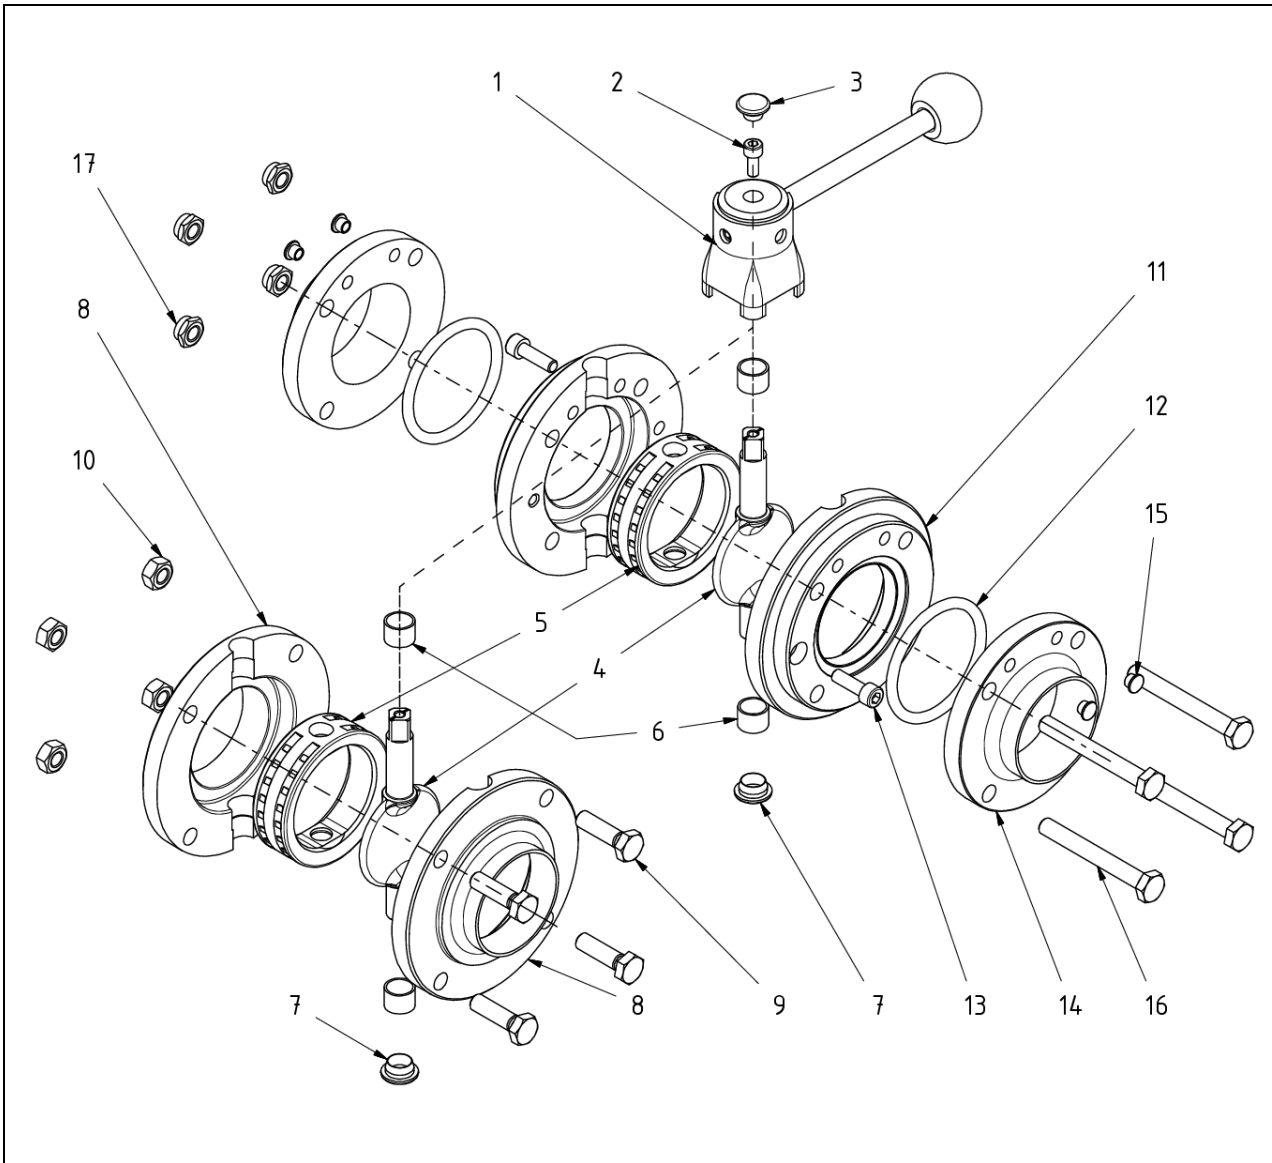

Fig. 6.1: Structure: Butterfly Valve with Handle
- Remove the blanking plugs (Fig. 6.1, item 3 and item 7).
- Remove the socket-head screw (Fig. 6.1, item 2).
- Pull out the entire “handle” assembly group (Fig. 6.1, item 1) in the direction of the axis.
- Remove the bolt group (Fig. 6.1, item 9 and item 10).
- Separate the flanges (Fig. 6.1, item 8).
- Remove the valve disc (Fig. 6.1, item 4) together with the gasket (Fig. 6.1, item 5) and bushings (Fig. 6.1, item 6) from the flange.
- Slide the bushings (Fig. 6.1, item 6) off the shafts of the valve disc and pull the short shaft of the valve disc (Fig. 6.1, item 4) out of the hole in the gasket (Fig. 6.1, item 5), and then pull the long shaft.
- Check the gasket (Fig. 6.1, item 5) for damage.
- Clean the valve disc (Fig. 6.1, item 4) including the shafts, and lubricate the gasket (Fig. 6.1, item 5) in the bearing shaft hole using approved grease (Unisilikon 641, for example, from Klüber).
- Insert the long shaft of the valve disc (Fig. 6.1, item 4) into the hole in the gasket (Fig. 6.1, item 5).
- Press the gasket (Fig. 6.1, item 5) together and pull it over the short shaft.
- Slide the bushings (Fig. 6.1, item 6) over the shafts of the valve disc (Fig. 6.1, item 4).
- Insert the valve disc (Fig. 6.1, item 4) with the gasket attached to it into the bearing shaft hole of the flange (Fig. 6.1, item 8).
- Carefully place the counter flange on the flange without damaging the gasket (Fig. 6.1, item 5).
- Set the valve disc (Fig. 6.1, item 4) to the “Closed” position.
- Place the handle (Fig. 6.1, item 1) on the square of the valve disc.
- Turn the hand lever so that the through hole is facing the valve disc plate. To secure the “handle” assembly group in place, insert the socket-head screw (Fig. 6.1, item 2) and tighten it firmly.
- Seal up the hole in the handle using the blanking plug (Fig. 6.1, item 3) and in the housing using the blanking plug (Fig. 6.1, item 7).
- When installing the valve disc (Fig. 6.1, item 4) with gasket (Fig. 6.1, item 5) in the inner flange (Fig. 6.1, item 11), make sure that the long valve disc shaft with square profile is positioned in the direction of the two mounting holes for the holding bracket.
- Carefully place the counter flange on the flange without damaging the gasket (Fig. 6.1, item 5) and screw them both in place using the socket-head screws (Fig. 6.1, item 13). Make sure that all the holes for fastening the holding bracket in place are aligned.
- Bolt the valve and the outer flanges together using the hexagonal bolts (Fig. 6.1, item 16) and hexagonal nuts (Fig. 6.1, item 17).
- Place the handle (Fig. 6.1, item 1) on the square section of the valve disc and fix it in place using the socket-head screw (Fig. 6.1, item 2).
- Seal up the hole in the handle using the blanking plug (Fig. 6.1, item 3) and in the housing (Fig. 6.1, item 7).